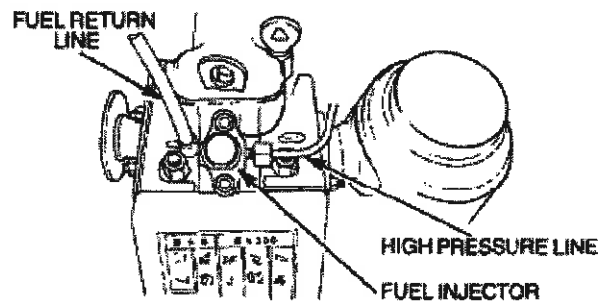

Figure 8 Fuel Injector
- e. Remove the two nuts and washers securing the injector into the cylinder head (Figure 8).